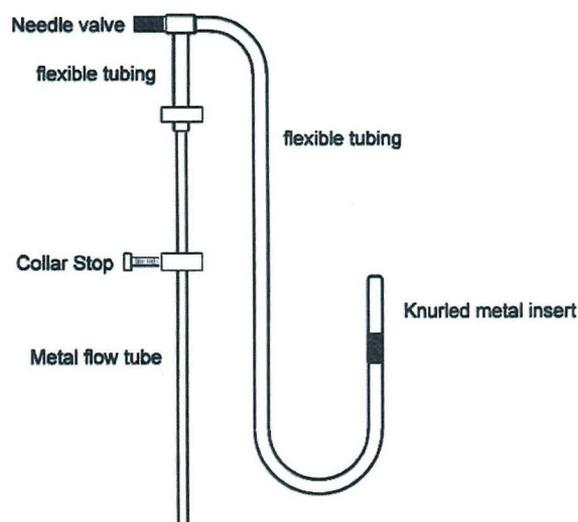

Figure 1: Flow Degasser Assembly
(1) Vacuum Degas: Weigh an empty cell, add sample (sufficient for 2-50 m² total area), place the sample cell in the pouch of the heating mantle, set clamp in place, insert cell into fitting, tighten fitting and loop elastic cords over hooks provided. Load the degasser and pull vacuum on the sample for at least 10 minutes. Next, set the temperature select to the required degas temperature (see below on choosing an outgassing temperature) and switch the heating mantle on. After sufficient time for complete outgassing, switch the mantle off. Select the backfill gas (Helium or Adsorbate). Allow sample cell to cool. Unload degasser when ready to analyze sample. Remove cell; reweigh to obtain dry, outgassed sample weight.
(2) Flow Degas: The apparatus shown in Figure 1 below (Flow Degasser Assembly) has to be attached for flow degas. Use 6 mm O-Ring and adapter sleeve to mount the metal insert in to the fitting. The gas flow rate can be set by placing the metal flow tube into a beaker of water and adjusting the needle valve to set a flow of 1-2 bubbles per second. The needle valve may have to be readjusted so those particles are not carried out of the sample cells. Turn the valve knob clockwise to reduce gas flow, turn valve counterclockwise to increase gas flow. Weigh an empty cell, add sample. Insert the body of the sample cell into the heating mantle. Place the flow outgas tube into the sample cell. Adjust the collar stop so that the end of the tube is approximately 0.5 cm above the sample with the collar stop resting on the rim of the cell stem. Do not allow the tube to dip into a bed of powder. Load degasser, set the desired outgassing temperature and switch the heating mantle on. After sufficient time for complete outgassing, switch the mantle off. Allow sample cell to cool. Unload degasser when ready to analyze sample (after the outgassing procedure, user can choose to backfill with adsorbate or with Helium). Remove cell, reweigh to obtain dry, outgassed sample weight.